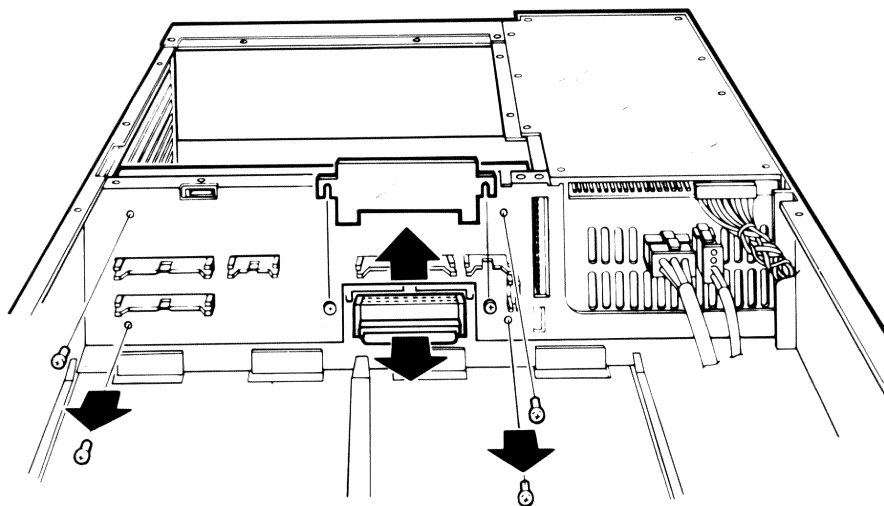

Figure 6-11 Trap Door Removal
2. Remove the two screws that attach the trap door to the signal distribution panel, and remove the door. (Figure 6-11)